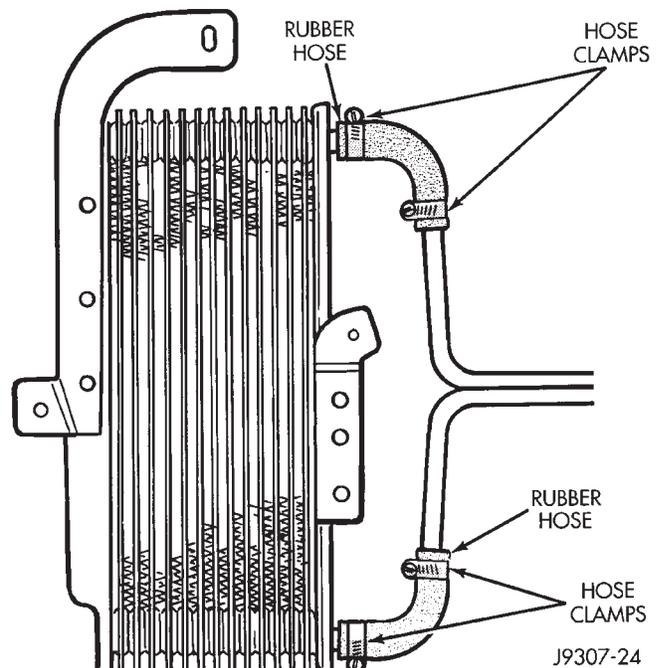

Fig. 24 Oil Cooler Hoses—Typical
- (8) Disconnect the upper hose clamp at cooler line (Fig. 24). Separate the line from the rubber hose.
- (9) Position the cooler to gain access to lower hose. The cooler lines are routed through a rubber seal located on the side of radiator. Be careful not to cut or tear this seal when positioning cooler for lower hose removal.
- (10) Remove lower hose clamp and hose from cooler.
- (11) Remove cooler from vehicle.